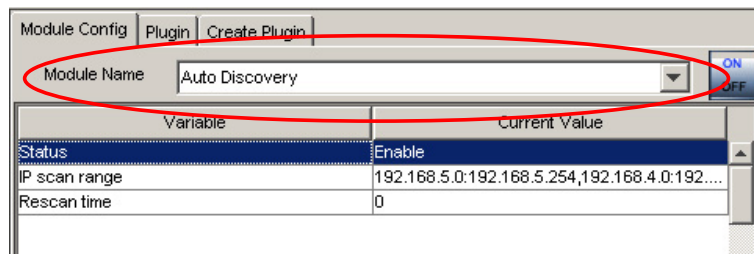

Figure 4-48: Auto Discovery Option
**Step 1.** Open the **Module Configuration** page. Use the **Module Name** pull-down menu to select Auto Discovery option. (See *Figure 4-48*)